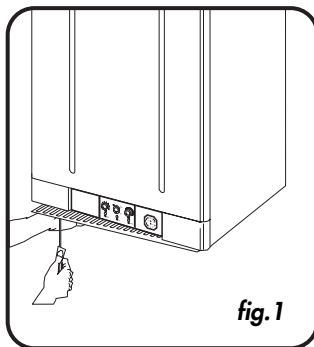

fig.1
- Undo the two grating screws (fig. 1)